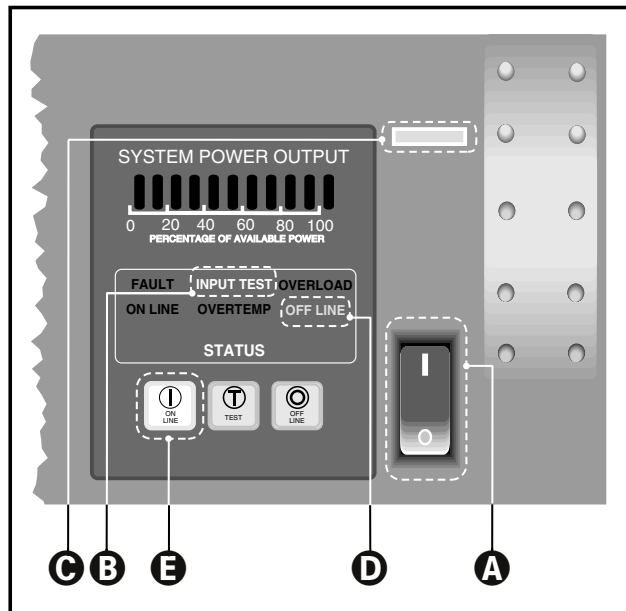

Figure 11–1 Front Panel Startup Controls and Indicators
2. Push the front panel AC power switch to the **ON** position (marked **I** on the switch.) This is labeled **A** in Figure 11–1.
4. The green power indicator (**C** in Figure 11–1) should then light up. The yellow **OFF LINE** status indicator (**D** in Figure 11–1) should also be lit. After subsequent power cycles, the DPC will return to its last state (**ON LINE** or **OFF LINE**) when the front panel AC power switch is turned **ON** again.
5. Press the **ON LINE** generator control key on the front panel (labeled **E** in Figure 11–1.) The green **ON LINE** indicator in the Status Display (labeled **F** in Figure 11–2) should now be lit.